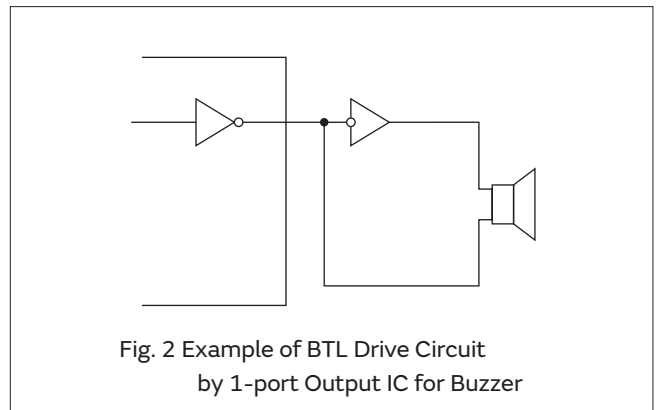

Fig. 2 Example of BTL Drive Circuit by 1-port Output IC for Buzzer
(2) In a case that is driven by IC directly like as Fig. 2, input voltage of Piezoelectric sound components should be twice as high because of the BTL (Bridge Tied Load) drive circuit, which includes an inverter.
When the piezoelectric diaphragm oscillates freely in air, the node does not move as shown in Fig. 1. With this point held with a measuring terminal, the resonant frequency (f_0) and resonant impedance (R_0) are measured in the constant-current circuit as shown in Fig. 2.